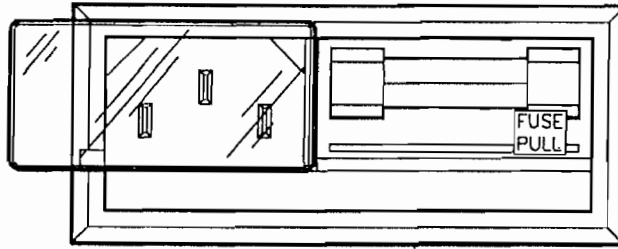

Figure 2.1 Power cord connector and voltage selector.
- Figure 2.1 Power cord connector and voltage selector.
The PWR-3 may be operated on either 120 VAC or 240 VAC power and 50 or 60 Hz. Selection of the appropriate voltage is accomplished on the rear panel. To determine the voltage requirement of the instrument or to change the voltage, unplug the line cord and slide the plastic window to the left. The orientation of the small circuit board now exposed in this socket determines the voltage. If the voltage labelled on the outside edge is not that required, pull out the board and reinsert it such that the desired voltage is now visible along the outside edge. Note: Do not use the board with the 100/230 V side up. Figure 2.1 is a illustration of the main power connector.